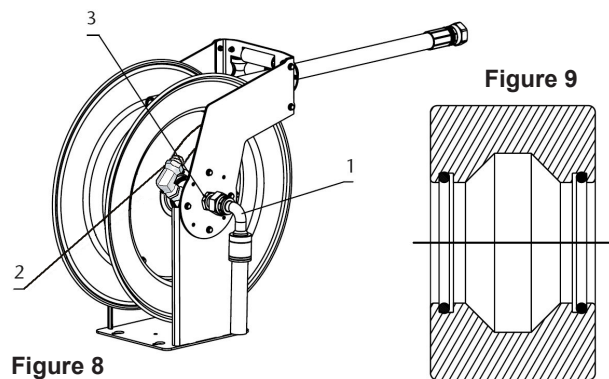

Figure 8
3. Disconnect inlet hose (1) (figure 8).
5. Disconnect main hose at 90° adapter joint (2) (figure 8)
6. Loosen set screw in nut (3) (figure 8) and remove nut.